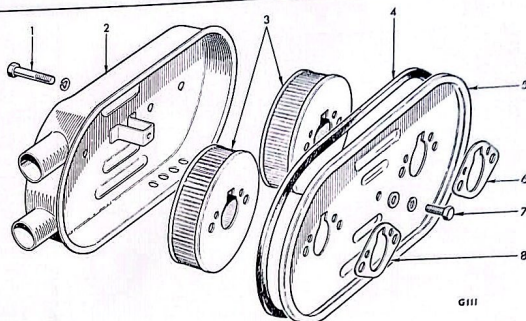

Fig. 15. Air cleaner details
To remove the cleaning elements, unscrew four bolts (1) securing the container to the carburettor flanges. (See Fig. 15)